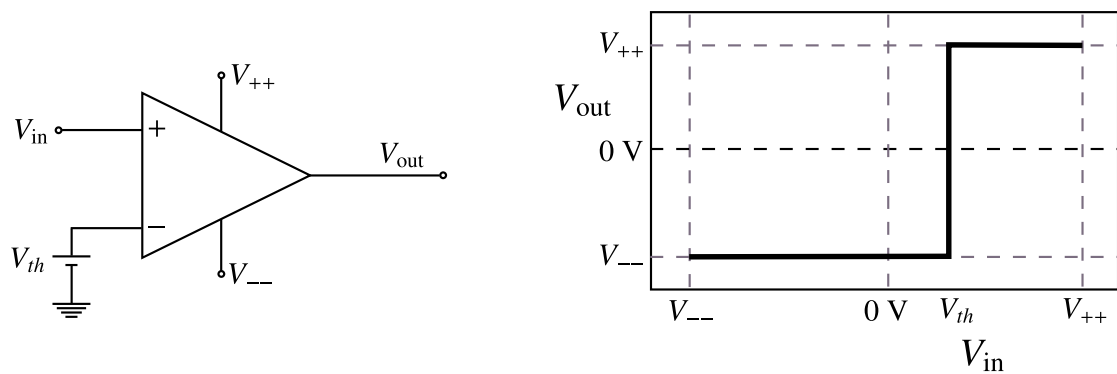

Figure 13: OP-AMP as a threshold comparator.
Figure 13 shows a small modification, allowing the circuit to switch its output when V_{in} crosses a certain preset voltage level, often called the threshold voltage, V_{th} .
3. Connect terminal A of the DC power supply (0 - 30 V) at the input. Use terminal B (5 V) to provide threshold voltage V_{th} for circuit shown in figure 13.
6. Make a plot of V_{out} vs. V_{in} for each circuit. Estimate V_{th} from graph for figure 13 and compare with the V_{th} value applied. You can repeat the same procedure for different values of threshold.